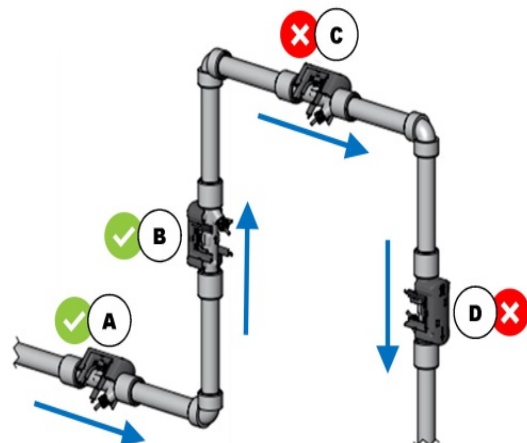

Figure 3: Installation Positions
2. See the installation positions in Figure 3, in which A and B are the proper installation positions, while C and D are the improper positions.